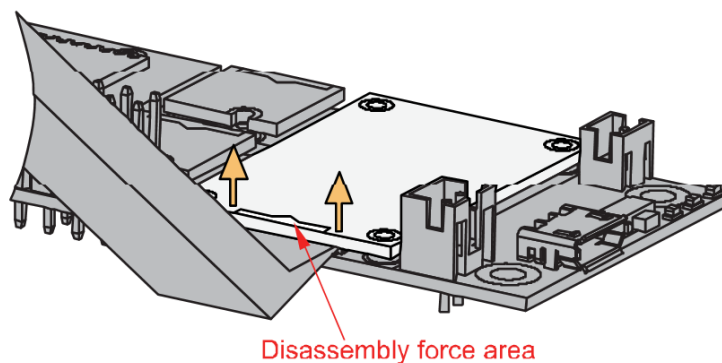

**Figure 17:** Removing screws from the WisBlock module
1. The procedure to disassemble any type of WisBlock modules is the same. As shown in **Figure 17**, first, remove the screws.